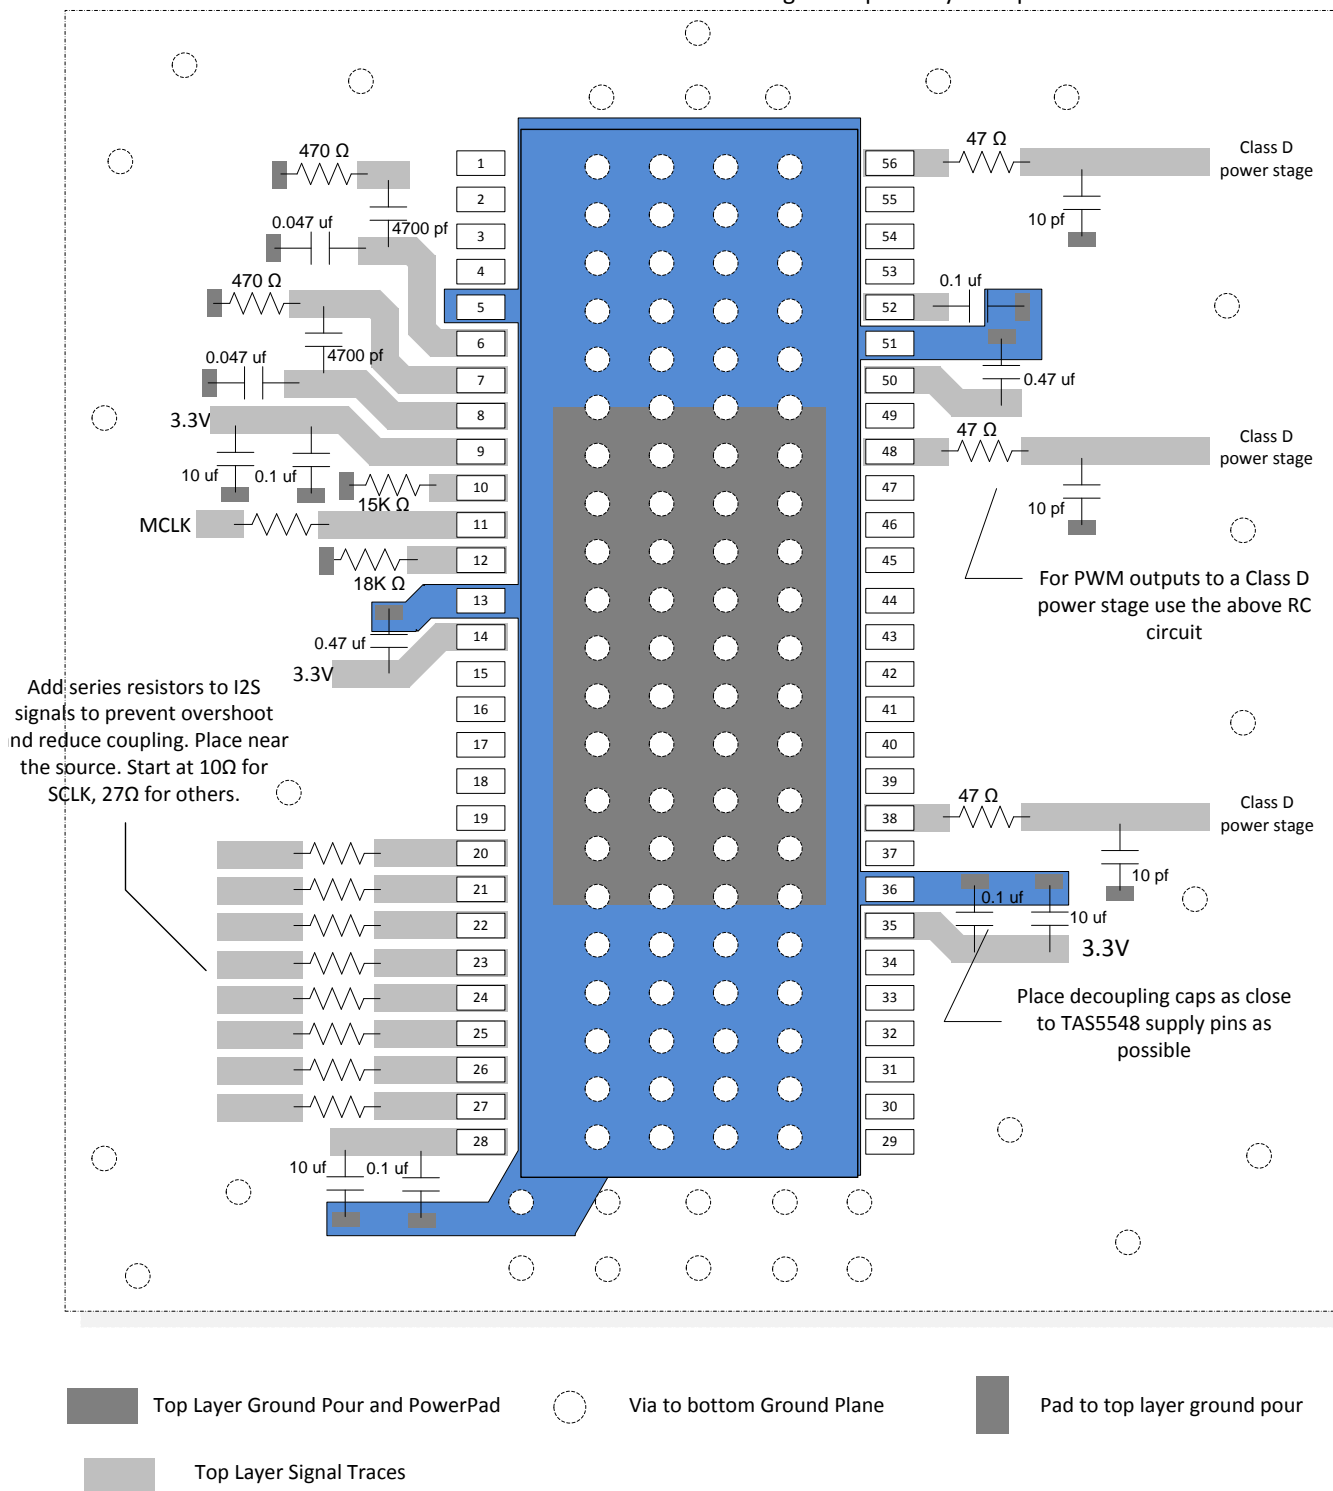

Figure 53. TAS5558 Layout Example
- Decoupling capacitors should be placed as close to the DVDD1_CORE, DVDD2_CORE, VR_DIG, AVDD_PWM and AVDD as possible. These decoupling capacitors should also have a path through the GND plane back to the power pad, as shown by the blue area in the layout example in Figure 53.
- Further guidelines can be found on the layout example in Figure 53.